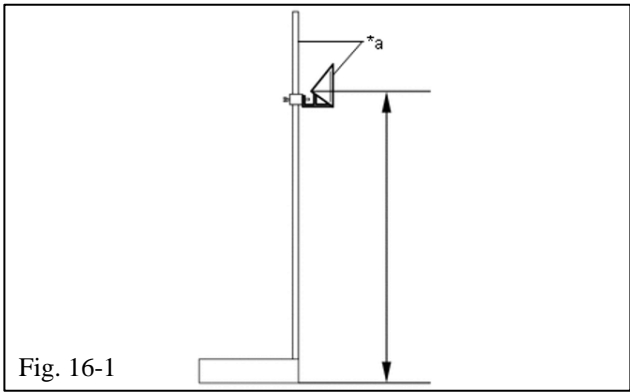

Fig. 16-1
- (a) Adjust the SST (reflector) height so that the center of the SST (reflector) is the same height as the millimeter wave radar sensor assembly (Fig. 16-1).